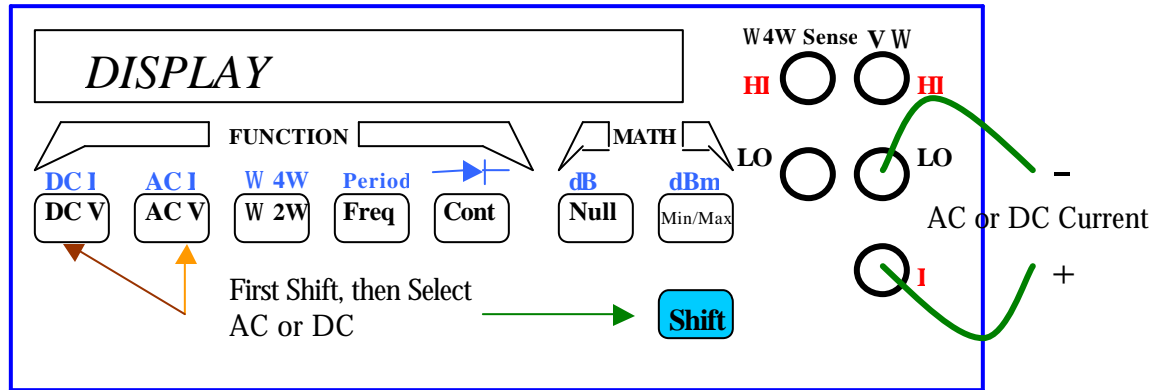

Figure 4. How to Measure Current
To use the DMM as an ammeter, connect the leads in which the current flows to the current (I) and LO terminals (Figure 4). To measure the current, either the DC I or AC I key must be selected by pushing SHIFT and DC V or AC V button.